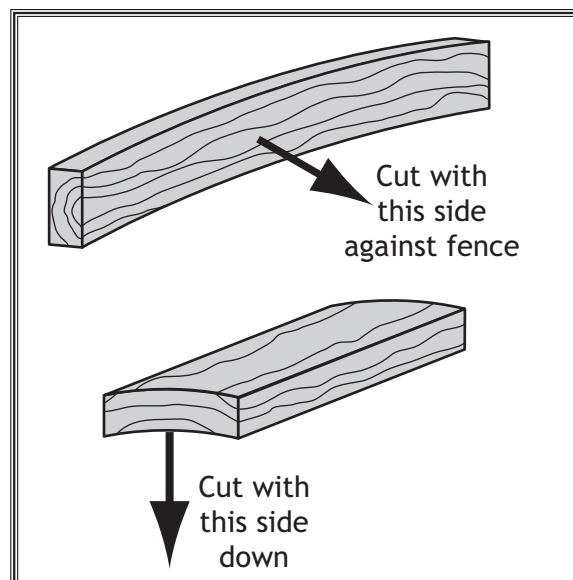

Figure 49. Cutting wood with minor warping.
- **Minor Warping:** Workpieces with slight cupping can be safely supported if the cupped side faces the table or fence, as shown in **Figure 49**. On the contrary, a workpiece supported on the bowed side will rock during a cut, leading to loss of control.